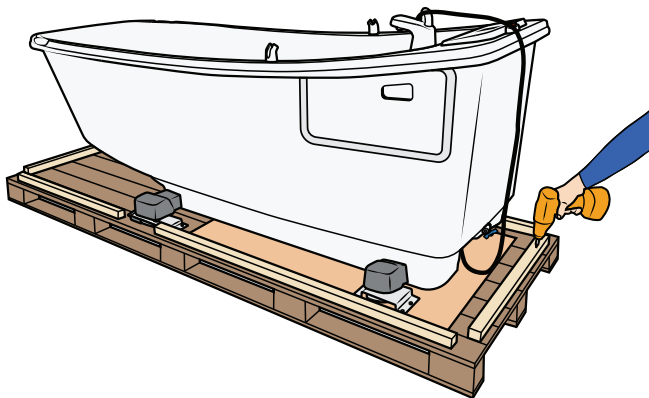

Figure 3
2. Remove wooden rib at the foot end. See Figure 3.